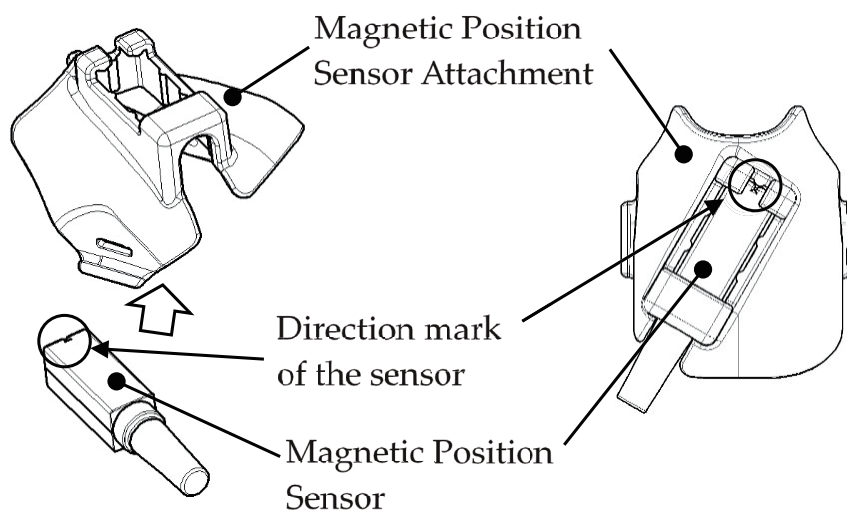

Figure 6 How to attach Magnetic Position Sensor
- (1) Confirm that the magnetic position sensor attachment is sterilized or disinfected.
- (2) Insert the magnetic position sensor into the magnetic position sensor attachment with the correct direction as shown in Figure 6.